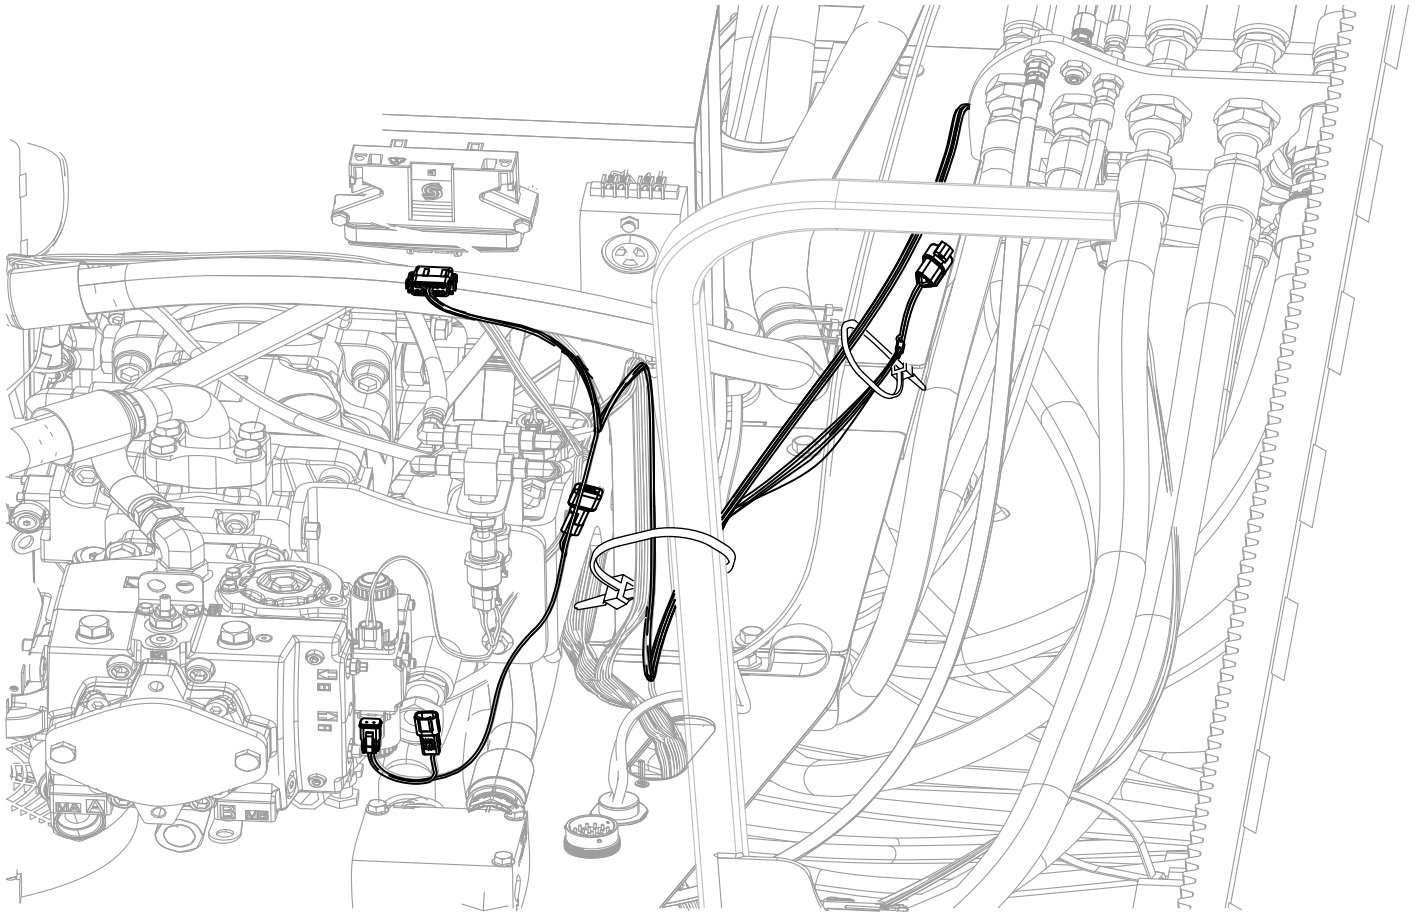
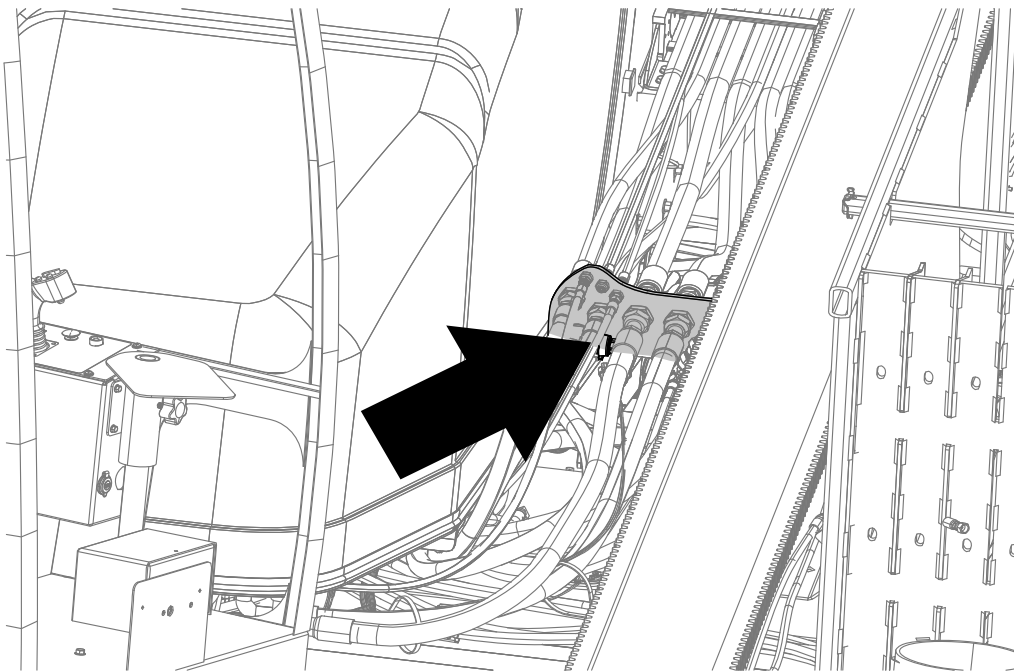

Figure 6
Figure 7
Route the wire harness along the frame with the current wire harnesses (Figure 6 and Figure 7).
1. Locate the transducer below the bulkhead, just above the fuel-tank sending unit (Figure 7).